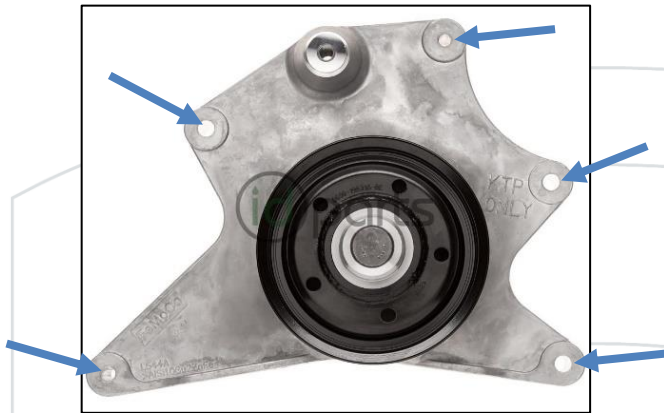

Figure 17: Cooling Fan Hub Bolt Locations
- a. Remove the top right bolt in Figure 17 holding the electrical bracket to the fan hub casting in Figure 16.
28. Remove the remaining four bolts securing the cooling fan hub assembly (Figure 17).
13. Install the cooling fan hub mounting assembly. Torque the five mounting bolts to **18 lb-ft** (Figure 17).